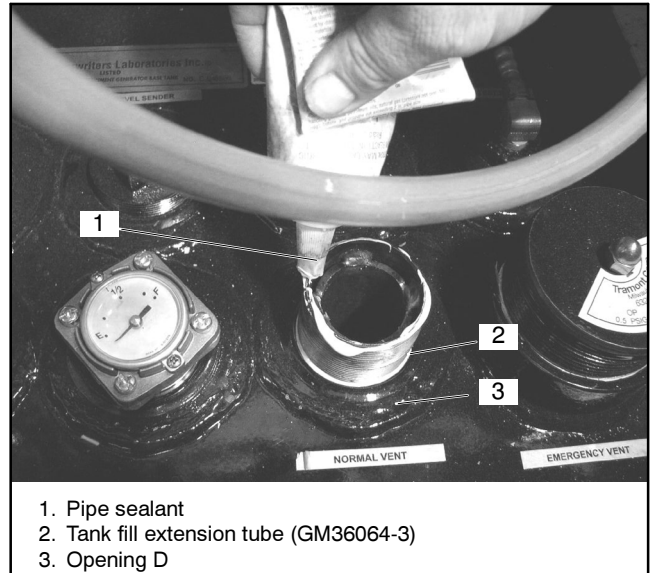

Figure 5 Apply Pipe Sealant to Top of Threads
- 2.1.3 Apply pipe sealant to top threads on tank fill extension tube GM36064-3. See Figure 5.